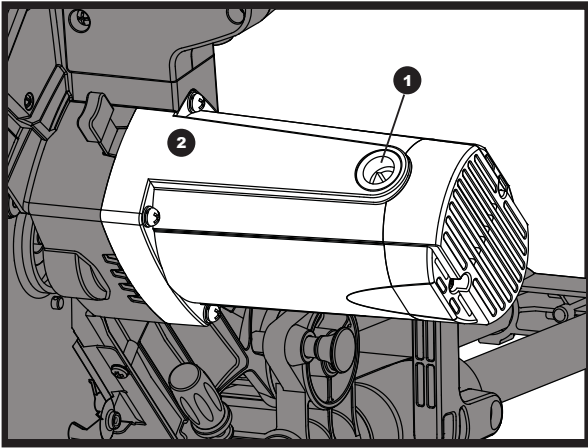

Fig 43
Replace both carbon brushes when either has less than 6 mm length of carbon remaining, or if the spring or wire is damaged or burned. To inspect or replace brushes, first unplug the saw. Then remove the black plastic cap (1) on the side of the motor (2). Remove the cap cautiously, because it is spring loaded. Then pull out the brush and replace. Replace for the other side. To reassemble reverse the procedure. The ears on the metal end of the assembly go in the same hole the carbon part fits into. Tighten the cap snugly, but do not overtighten. (See fig. 43)